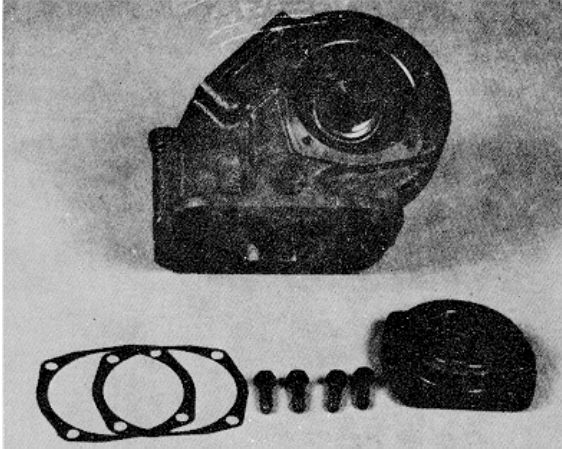

Figure 11B-7. Closed Bearing Cap Components
7. Using bearing pullers, remove bearing (21) from shaft (02). Figure 11B-8.